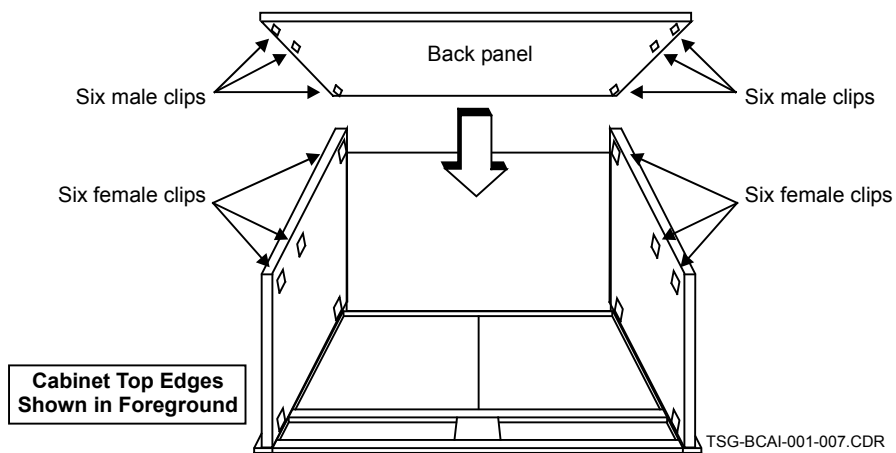

Figure 8 — Mount Back Panel to Assembly
- (6) Carefully align and then insert the six male clips on the inside of the back panel into the six female clips on the two side panels. (See Figure 8.)